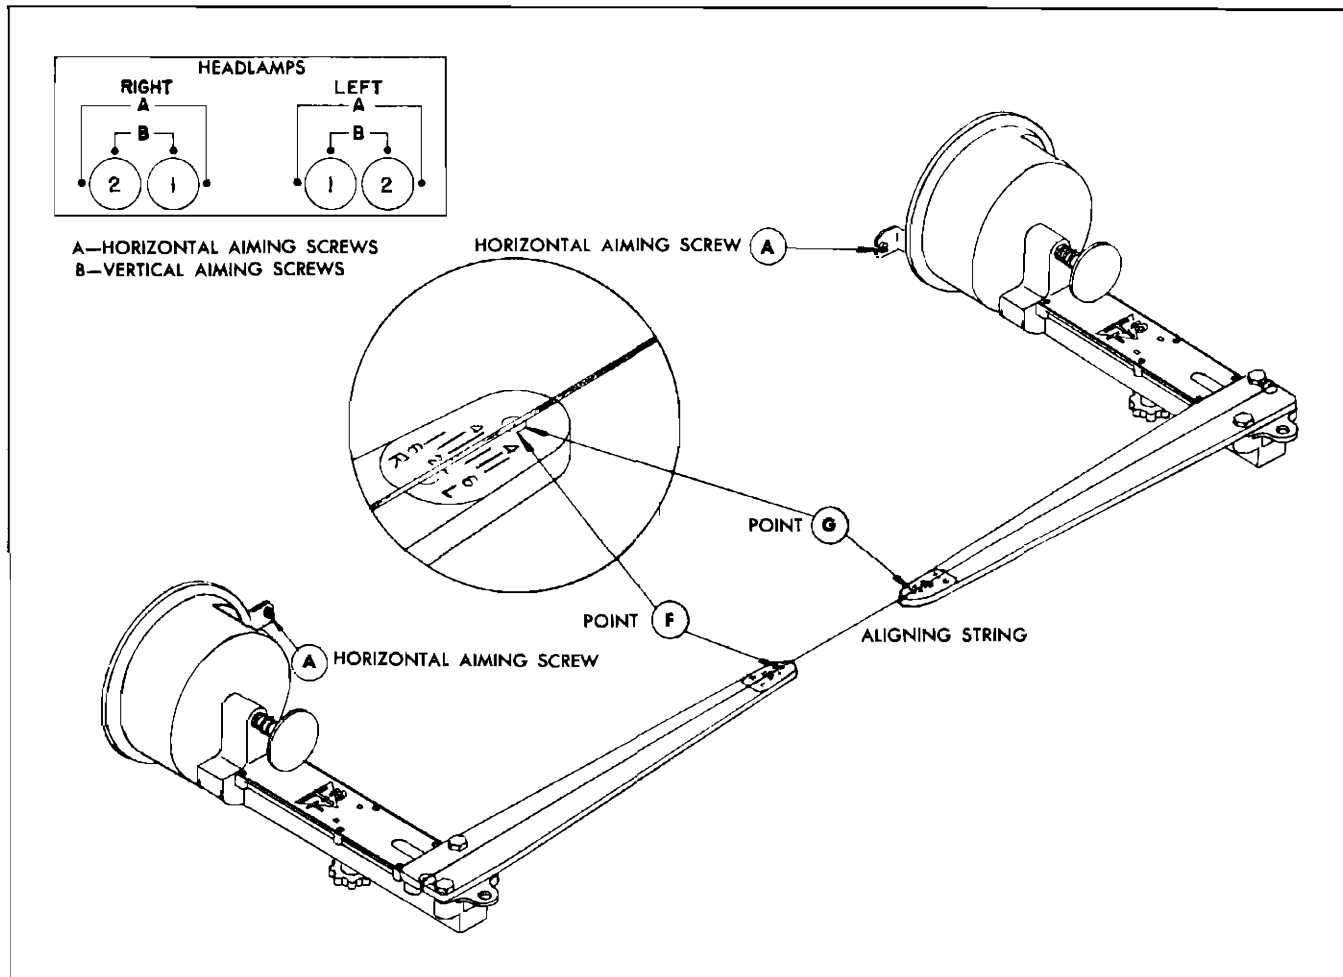

Fig. 11-120 Horizontal Aim Adjustment
a. Rotate aimers around headlamp units so that points "F" and "G" (Fig. 11-120) just clear string.